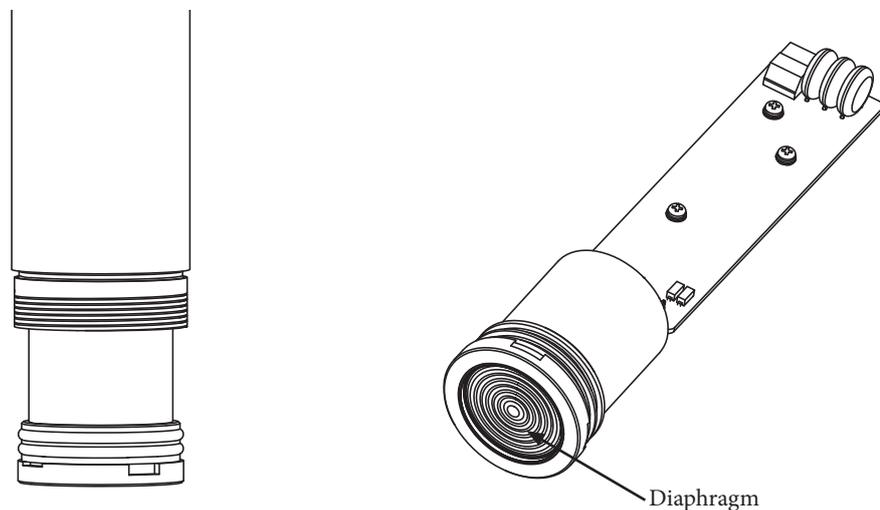

Fig. 9-7. Disassembling the housing and meterbody
- (3) When the meterbody is pulled out so that it can be held by hand, pull it out completely. To prevent any damage, be careful not to apply excessive force to the diaphragm. (→ Fig. 9-7)